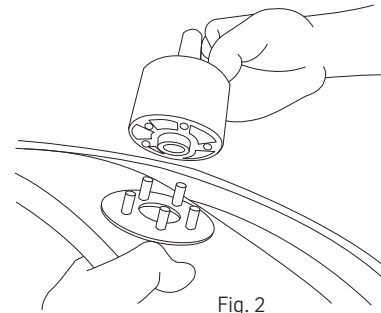

Fig. 2.
Place the second plate (C) on ring base. Position ringbase center (A) on top of plate shown in fig. 2.